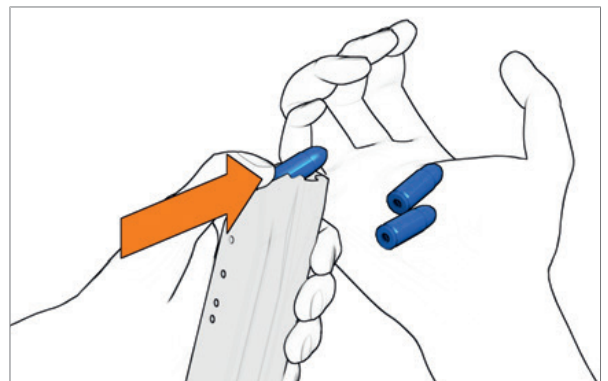

Fig. 47: Empty the magazine
- › Push cartridges forwards out of magazine (Fig. 47).